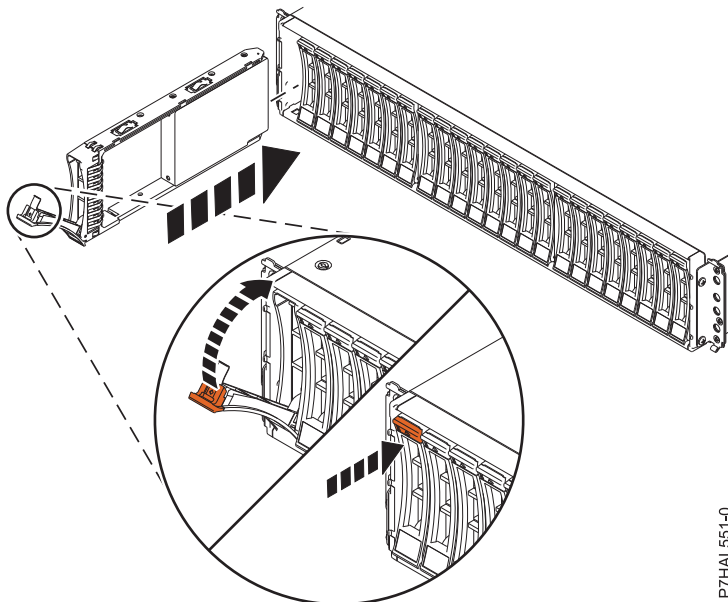

Figure 8. Installing the disk drive in the 5887
1. With the handle in the unlocked position, see Figure 8, support the bottom of the disk unit as you align it with the guide rails in the expansion unit. Do not hold the disk unit solely by the handle.